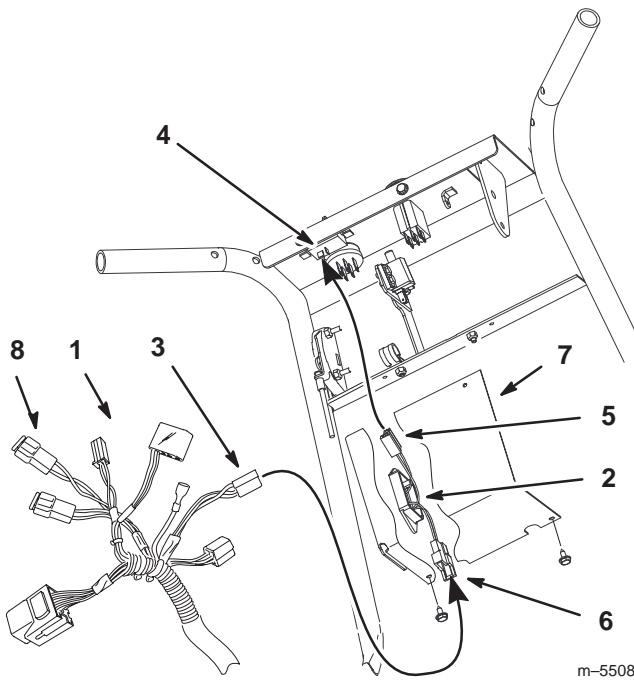

Figure 31
7. Remove the hour meter filter from the panel and discard (Fig. 31).
8. Install the hour meter harness connector directly to the hour meter (Fig. 31).